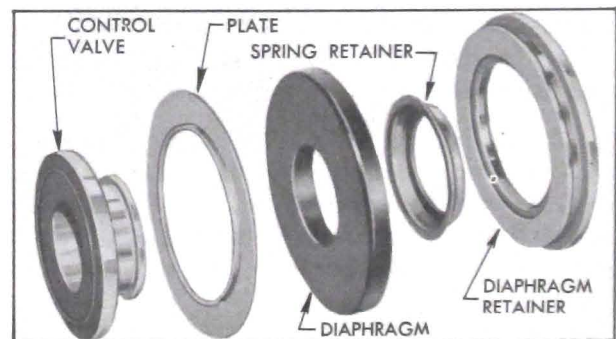

Figure 9-25—Control Valve and Diaphragm Disassembled
9. Remove diaphragm retainer from valve diaphragm, carefully pry off the valve spring retainer, then remove diaphragm and retainer plate from control valve. See figure 9-25.
10. Place *flat* side of retainer plate against *flat* side of valve diaphragm, push hub of floating control valve through plate and diaphragm, fitting flange of diaphragm into groove in valve, then press spring retainer over hub of valve. Slip outer flange of diaphragm over the smaller side of diaphragm retainer. See figure 9-25.